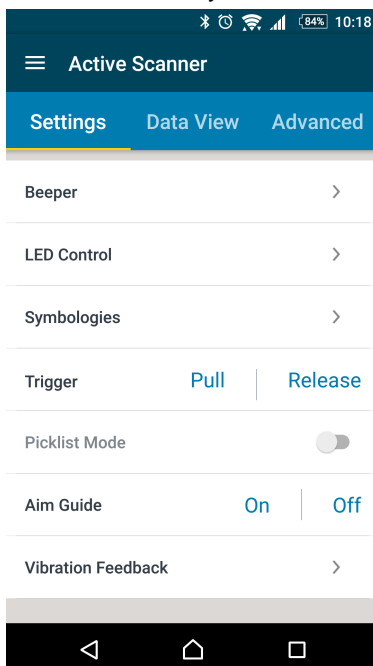

Figure 1-10 Settings - Active Scanner (Connected Device)
- When a device is selected in the *Available Device List* on page 1-8, the application attempts to connect to the scanner. When the connection is made, Figure 1-10 displays.